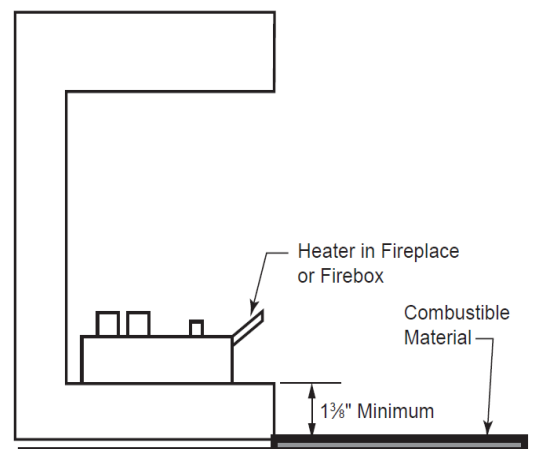

Figure 8 – Minimum Clearance Above Combustible Flooring.
The gas log heater must be installed at least 1 3/8" above any combustible flooring material, such as carpeting or tile, which is closer than 14" to the base of the fireplace. The minimum distance must be maintained from the top surface of carpeting, tile, etc. **See Figure 8.**
2. If combustible materials are less than 14 inches to the fireplace, you must install appliance at least 5 inches above the combustible flooring (See Figure 8)